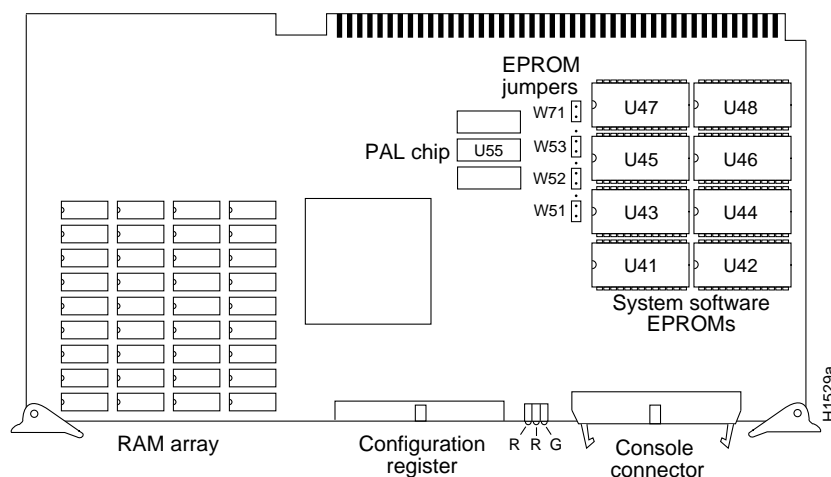

Figure 12 CSC/3 Processor Card—Component-Side View
Each EPROM has a notch cut on one end to indicate proper orientation. It should be placed so that this notch faces the same direction as the notch in the EPROM socket, as shown in Figure 12. Do *not* rely on the orientation of the EPROM labels for correct positioning.
Refer to Figure 12 for placement of the components on the CSC/3 processor card.
**Step 3** Referring to Figure 12, position the CSC/3 card as shown and locate the eight EPROMs in sockets U41 through U48.
- Step 9** When all new EPROMs are installed, refer to Figure 12 and locate the PAL chip (old part number 17-0628) at socket position U55 on the card.